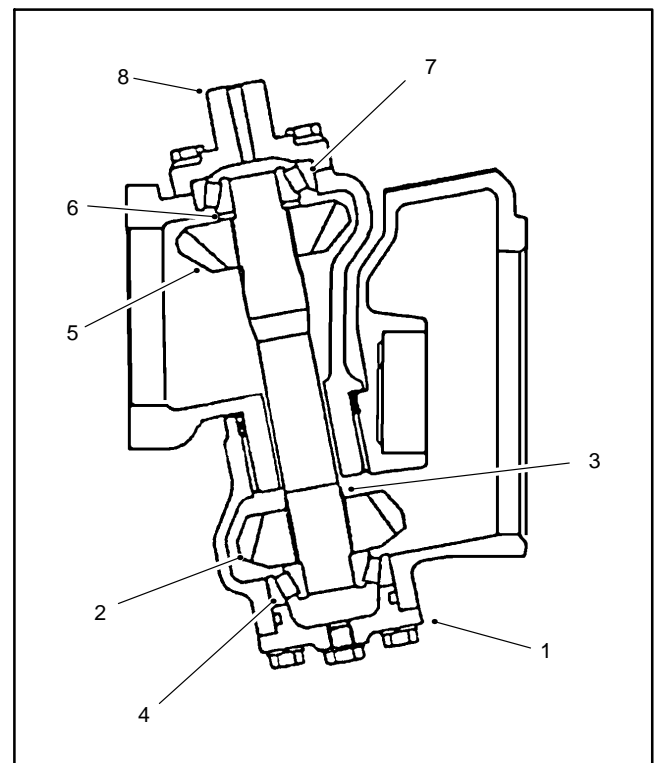

Figure 19
2. Install the lower bevel gear, and bevel gear shaft in the axle case cover. Coat a new O-ring with grease and install the axle case cover (Fig. 19). Tighten cover screws from 17 to 20 ft-lb (23 to 27 N-m).
3. Slide the bevel gear case over the bevel gear shaft and install the bevel gear and collar. Make sure the bevel gear shaft is completely seated in the upper and lower bearings (Fig. 19).